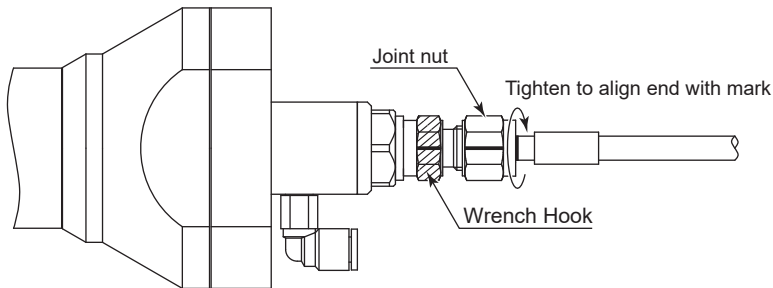

Fig. 23
- (2) Fit an adjustable wrench on the elbow surface (shaded area) of the high-pressure coolant fitting to hold it in place, and use another adjustable wrench to tighten the joint nut to its original tightening position. (Check that the matching lines are aligned and the end of the joint nut is aligned with the mark on the hose). (Fig. 23)